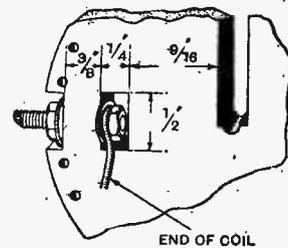

Fig. 3.—Method of fixing the spindles of the rotor.
Fig. 3.—THE TUNING INDUCTANCES. (A) Aerial coil; (B) Closed circuit; (C) Grid coil; (D) Strip copper lead to closed circuit condenser; (E) Lead to counterpoise terminal; (F) Closed circuit tap; (G) Anode tap; (H) 5/16in. ebonite rod on which grid coil former is a tight fit; (J) Coil support; (K) Three holding down screws; (L) Piece of wood to form pivot for grid coil spindle; (M) Grid battery wander plug; (N) Terminals; (O) H.F. choke; (P) Modulator valve holder.
Two 3 in. lengths of 2 B.A. rod are now required. Each is fastened in a transverse hole by two nuts, one in the slot and the other fastening an end of the coil to the portion of the rod projecting into the rectangular hole. Two washers are used to prevent crushing the ebonite, as indicated in Fig. 3.